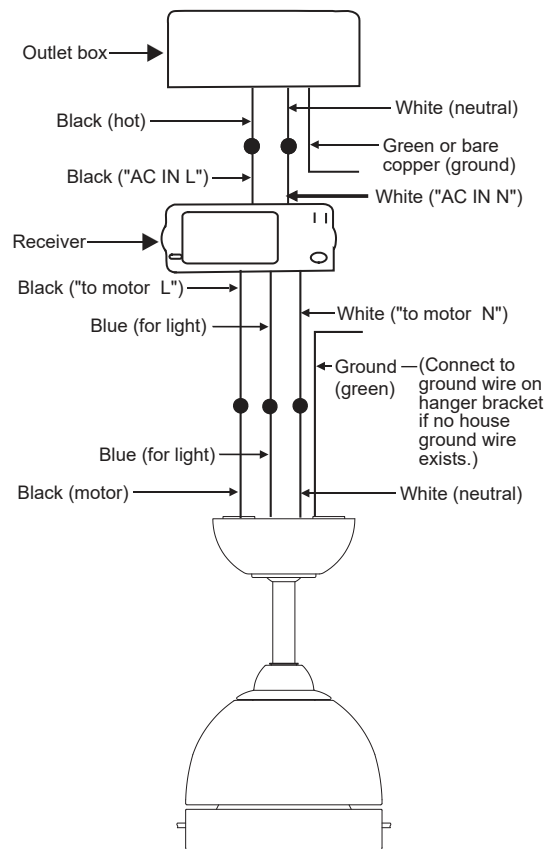

Fig. 12
Step 2. Motor to Receiver Electrical Connections: (Fig. 12) Connect the black wire from the fan to the black wire marked "TO MOTOR L" on the receiver. Connect the white wire from the fan to the white wire marked "TO MOTOR N" on the receiver. Connect the blue wire from the fan to the blue wire marked "FOR LIGHT" on the receiver. Secure all the wire connections with the plastic wire nuts provided.
Step 3. (Fig. 12) Receiver to House Supply Wires Electrical Connections: Connect the black (hot) wire from the ceiling to the black wire marked "AC in L" from the receiver. Connect the white (neutral) wire from the ceiling to the white wire marked "AC in N" from the Receiver. Secure the wire connections with the plastic wire nuts provided.
Step 4. (Fig. 12) If your outlet box has a ground wire (green or bare copper) connect it to the fan ground wires; otherwise connect the hanging bracket ground wire to the mounting bracket. Secure the wire connection with a plastic nut provided. After connecting the wires, spread them apart so that the green and white wires are on one side of the outlet box and black and blue wires are on the other side. Carefully tuck the wire connections up into the outlet box.